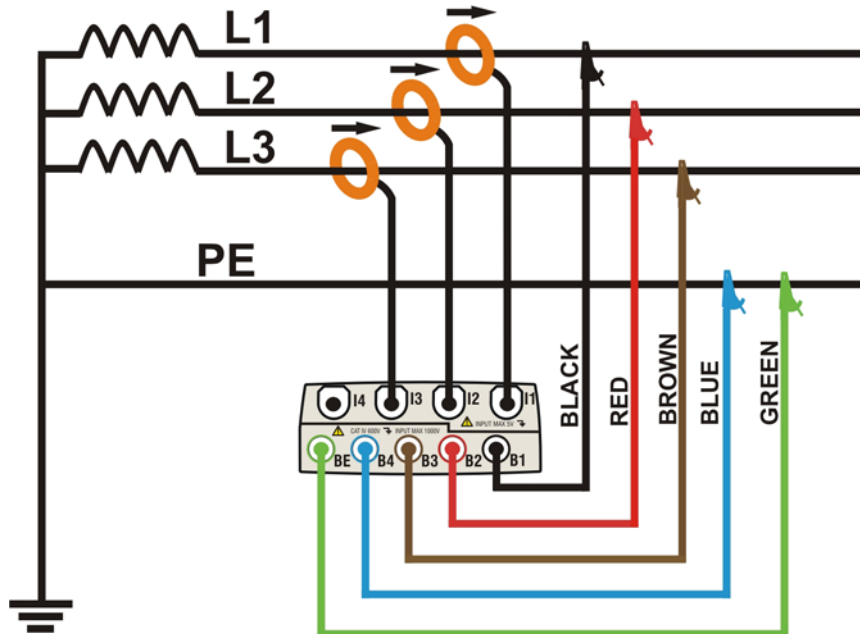

Fig. 187: Meter connection in a three phase 3-wire system
2. Connect voltage test leads on Phases L1, L2, L3, and Ground cables respecting the colours as shown in Fig. 187. **Verify the result “123” at display relative to a correct phase sequence indication** (see § 5.2.1) and perform the corrections if necessary.
3. Connect the transducer current clamps on Phase L1, L2, L3 cables as shown in Fig. 187 respecting the clamp's arrow direction indicating the current standard sequence from generator to load. **On Real Time Values' section screens always verify the positive value of Active Power and the power factor relative to load which should be normally inductive** before starting a recording. Reverse the clamp by 180 degrees on cables in case of negative readings.